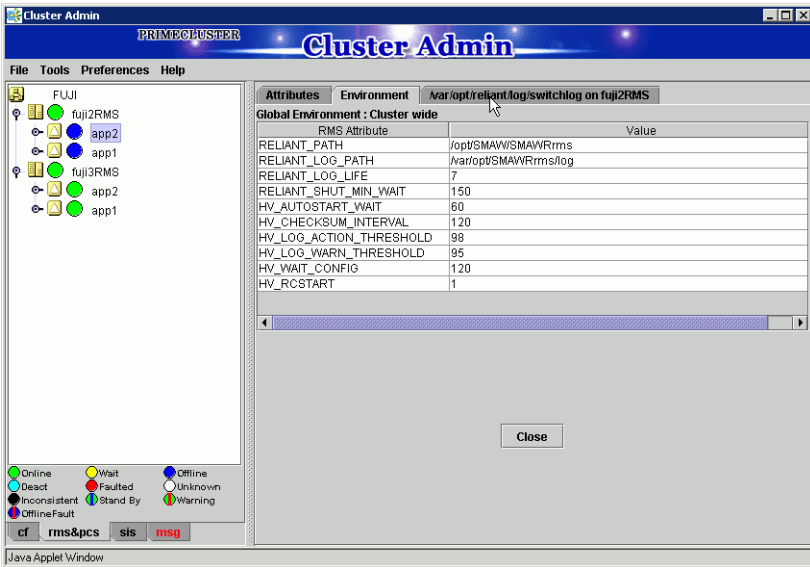

Figure 110: Clusterwide environment variables
- ▶ Right-click on a cluster in the RMS tree window and select *View Environment* (Figure 110).